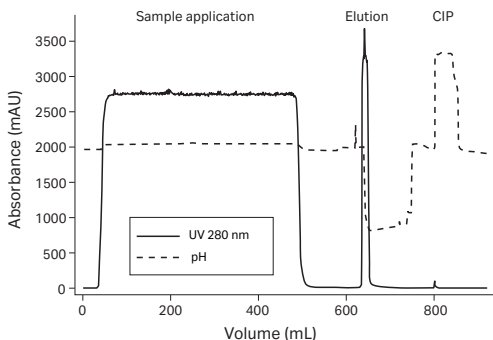

Fig 5. Purification of a monoclonal antibody from a mammalian cell culture on MabSelect SuRe
When optimizing elution conditions, determine the highest pH that allows efficient desorption of antibody from the column. This will prevent denaturing sensitive antibodies due to exposure to low pH. Stepwise elution (Figure 5) is often preferred in large-scale applications since it allows the target monoclonal antibody to be eluted in a more concentrated form, thus decreasing buffer consumption and shortening cycle times. It might be necessary to decrease the flow rate due to the high concentrations of protein in the eluate.
Figure 5 shows an example of purification of a monoclonal antibody from a clarified mammalian cell culture on MabSelect SuRe. The load was 21 mg antibody/mL column volume (CV), and the yield was 94% of highly purified antibody. An XK 16/20 column with a CV of 20 mL and a bed height of 10 cm was used.
The ligand leakage from MabSelect SuRe is generally low. For example, the eluate from the purification run shown in Figure 5 contained 3 ppm (ng ligand/mg antibody) of leached ligand. However, in many monoclonal antibody applications it is a requirement to eliminate leached ligand from the final product.